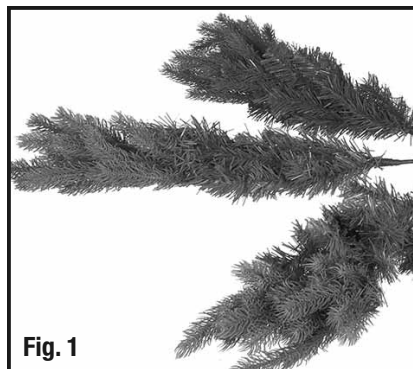

Fig. 1
1. Trees are shipped from the factory with the tips of each branch compressed to the center (Figure 1).